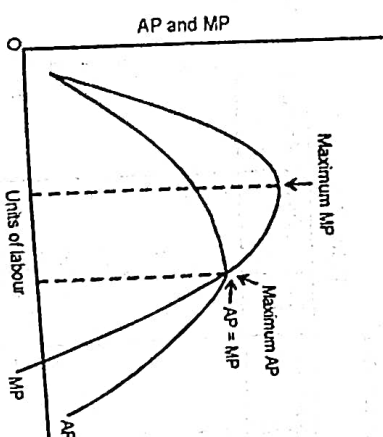

Fig. 7.5
- Table 7.2, and figures 7.5 and 7.6 give the tabular and graphic presentation of the law. (For our convenience, we re-present the table 7.1 as table 7.2 below without any change.)